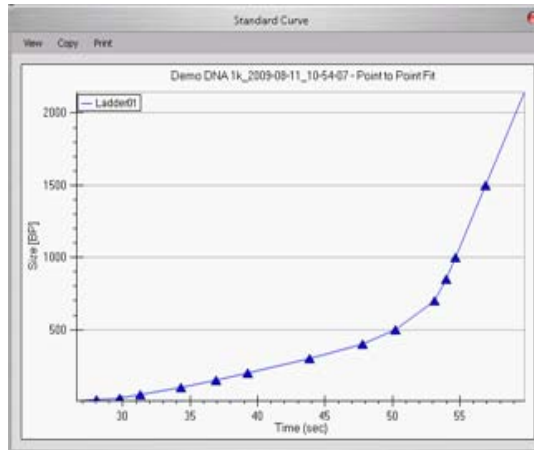

Figure 4. Standard Curve Window - DNA
- 5 The ladder is analyzed (see “Ladder Analysis” on page 271) and a standard curve of migration time versus DNA size is plotted from the DNA ladder by interpolation between the individual DNA fragment size/migration points. The standard curve derived from the data of the ladder well should resemble Figure 4.